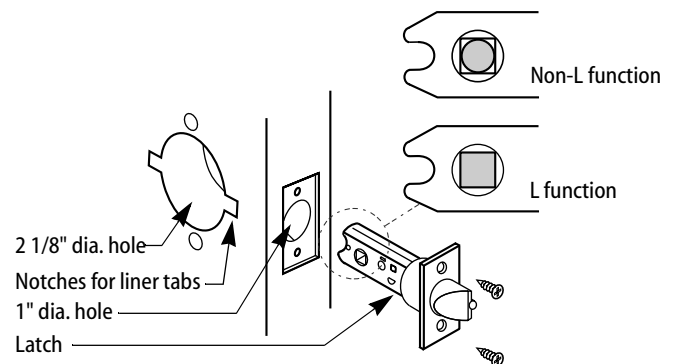

Figure 4—Boring two holes and installing the latch
- 1 Bore a 2 1/8" diameter hole from both sides of the door, to the center of the door as shown in Figure 4.
**Note:** For "L" function privacy locks, be sure to use the "L" function latch. See Figure 4.